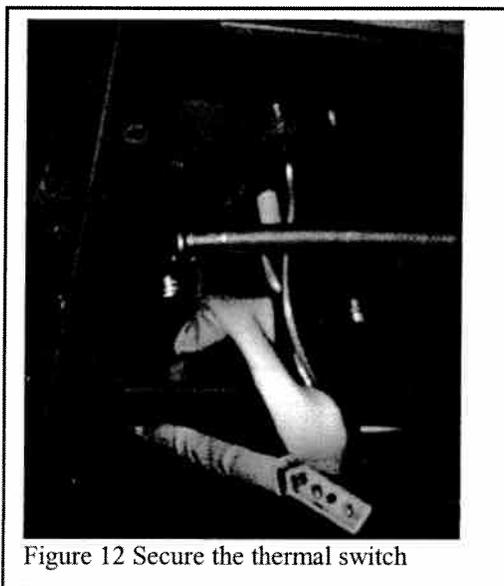

Figure 12 Secure the thermal switch
- Secure the thermally actuated switch to the underside of the burner module, using screws previously removed from the module(fig 12).